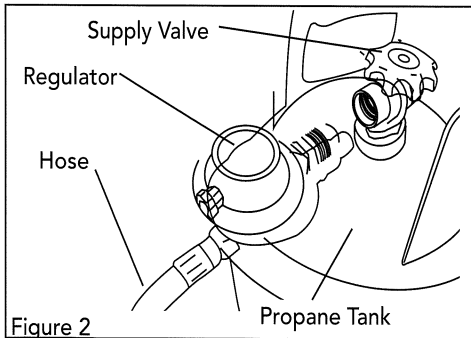

Figure 2
- Fasten full propane tank and connect proper fitting to LP cylinder valve by turning COUNTER-CLOCKWISE (see Figure 2).